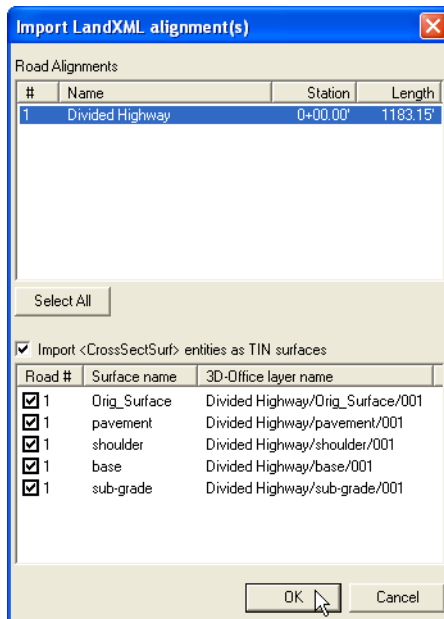

Figure 6-4. Select LandXML Alignment(s)
3. On the *Import LandXML alignment(s)* dialog box, select the desired alignment(s) (Figure 6-4 on page 6-4).